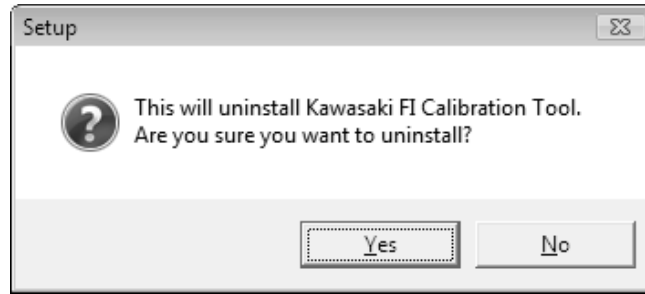

Fig. 26 Uninstall Starting Screen
(3) The screen shown in Fig.26 appears.